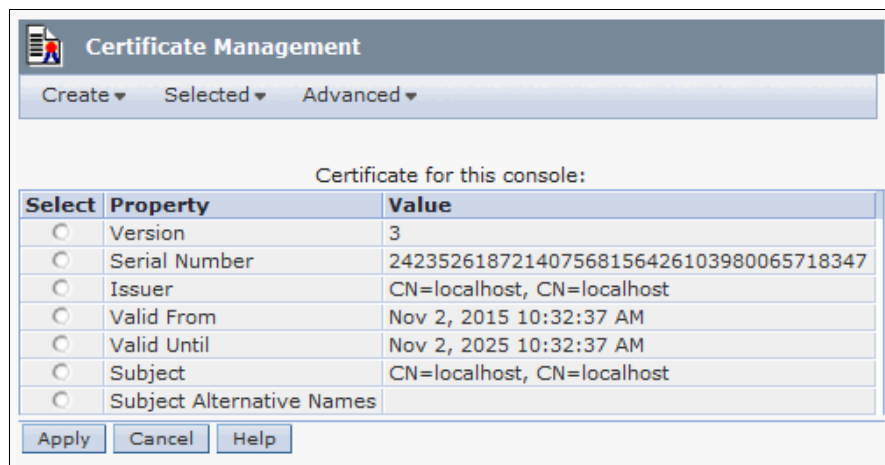

Figure 4-20 Certificate Management window
If you select **Manage Certificates** on the Systems and Console Security menu, the Certificate Management window opens (Figure 4-20 on page 283). Use this window to create, modify, import, or remove certificates.
5. A message box asks for save verification. Click **OK** to save the Certificate Signing Request as a file. You are then prompted if you want to use a temporary self-signed certificate until your certificate is signed and returned. Clicking **Yes** creates a self-signed certificate. You are returned to the Certificate Management window (Figure 4-20). Many of the values will display as Not available until changes applied.
9. After your certificate request is signed and returned, you have to import the certificate and apply by clicking **Advanced** → **Import Certificate** on the Certificate Management window that is shown in Figure 4-20. After the certificate is imported, apply it and restart the console.